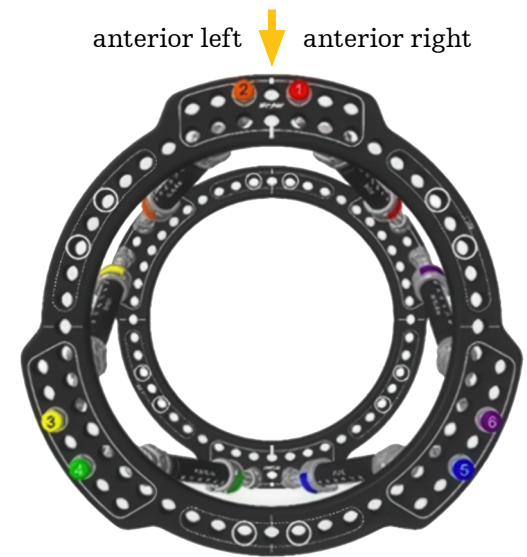

Figure 3
2. With the reference ring centered on the bone, the master marker (indicated by the Stryker logo) identifies the holes positioned directly anterior to the reference bone fragment. **(Figure 3)**